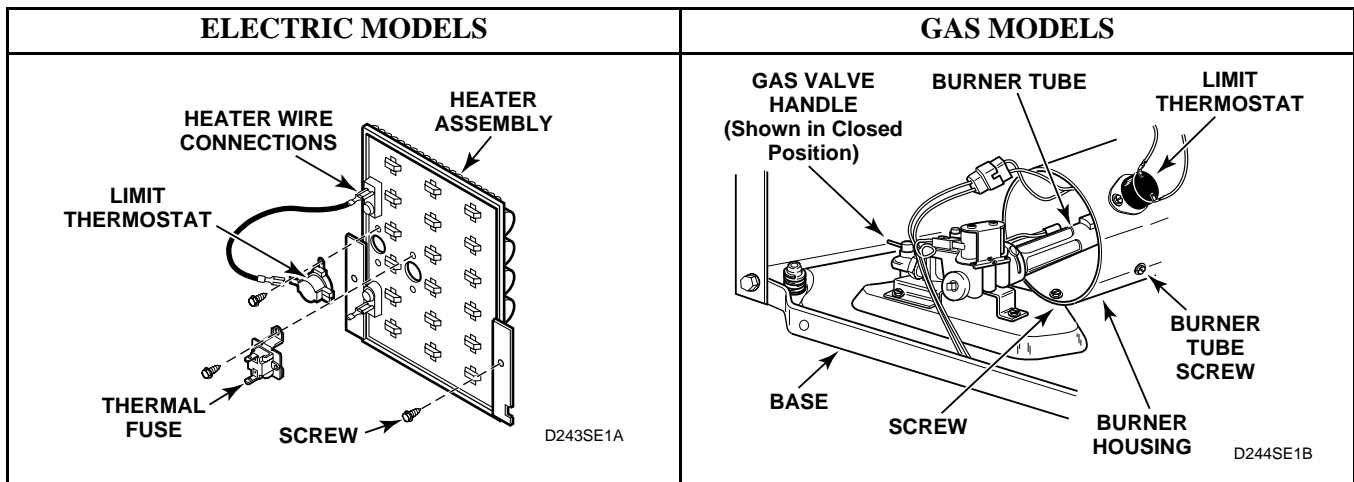

Figure 23
- (1.) Remove one screw from right side of burner housing holding burner tube in place. See *Figure 23*.
- d. Remove screw from right side of burner housing, while holding burner tube in place. See *Figure 23*.
- i. Remove screw holding front of burner housing to dryer base and remove housing out through front of dryer. See *Figure 23*.
- Disconnect wires and remove screws holding limit thermostat to burner housing (gas models) or element plate (electric models). See *Figure 23*.
- Remove two screws holding element and plate to heater box and remove element and plate out through front of dryer. See *Figure 23*.
- Disconnect wires from element and plate. See *Figure 23*.